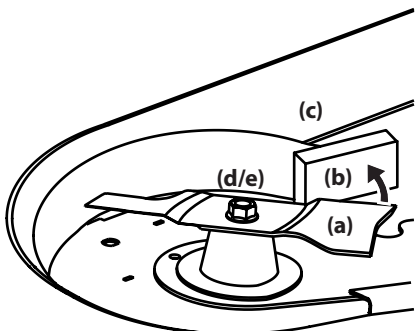

Figure 22
3. Wrap a rag around one end of the blade (a) and grasp it to prevent it from turning, or secure the blade (a) by placing a block of wood (b) between the blade (a) and the deck housing (c). See Figure 22.